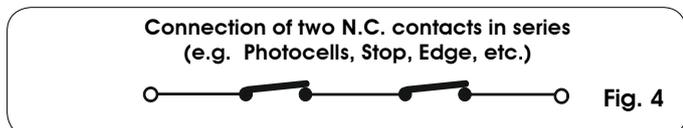

Fig. 4
N.B. If two or more safety devices have the same function (opening, closing, opening and closing, edge), the contacts must be connected to each other in series (fig. 4).
If the **Opening safety devices** are engaged when the gate is closed, they prevent the opening movement. To install several safety devices, connect the N.C. contacts in series (fig. 4).
To install several safety devices, connect the N.C. contacts in series (fig. 4).
To install several STOP devices, connect the N.C. contacts in series (fig. 4).